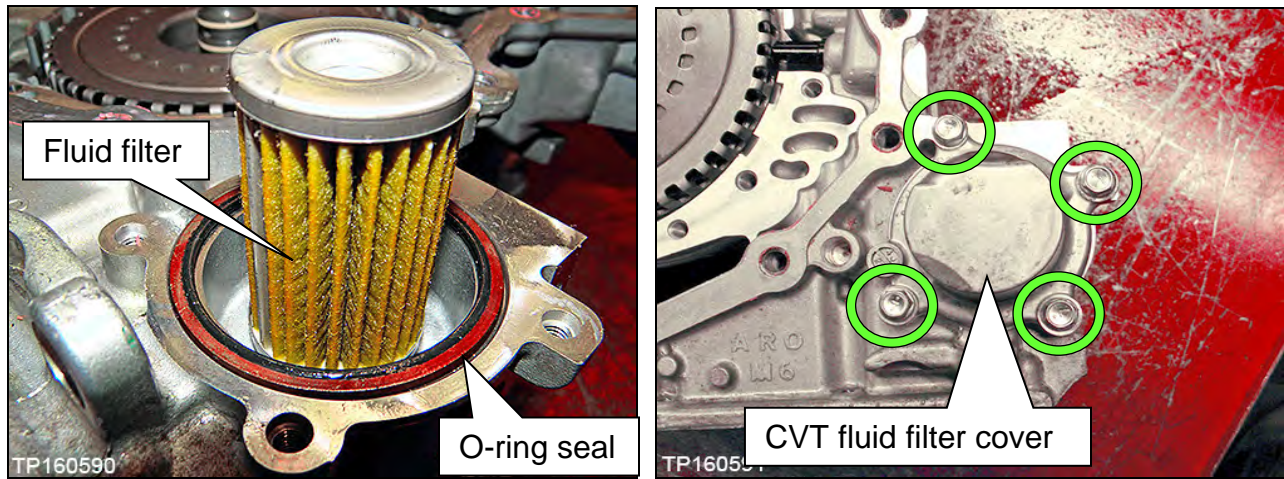

Figure 14I
13. Install the CVT fluid filter and components (Figure 14I).